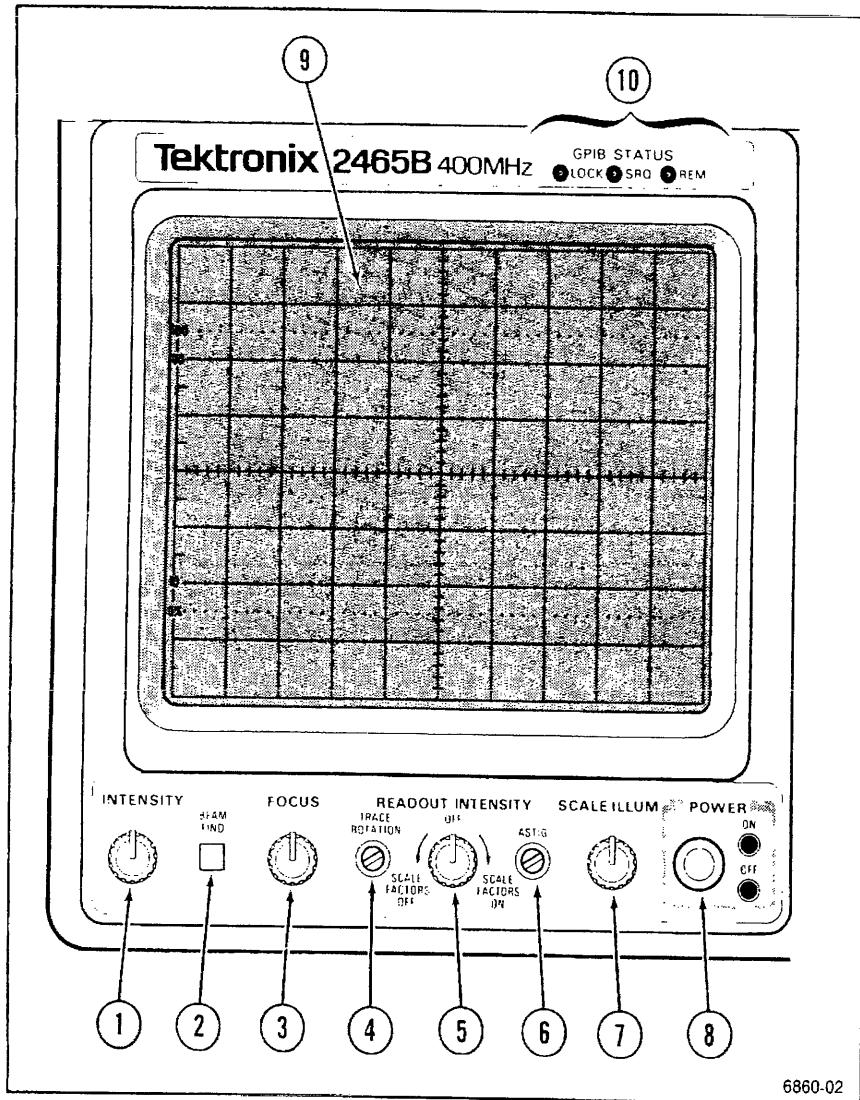

Figure 5-1. Power and display controls.
Refer to Figure 5-1 for the location of items 1 through 10.
- (1) **INTENSITY Control** Adjusts the brightness of the waveform.
- (2) **BEAM FIND Button** Limits the CRT deflection both vertically and horizontally to within the graticule. Display intensity is not affected by the BEAM FIND button.
- (3) **FOCUS Control** Adjusts the CRT writing beam for optimum display definition.
- (4) **TRACE ROTATION Control** Aligns the no-signal trace with the horizontal graticule lines. Relocating the instrument to a different magnetic ambient may result in slight misalignment of the trace and graticule, indicating a need to readjust the TRACE ROTATION control, using a screwdriver.
- (5) **READOUT INTENSITY Control** This control adjusts the intensity of the CRT readout display and will either enable or disable the display of scale factors. Digital measurements, Save/Recall readouts, the "50 Ω OVERLOAD" message, the available Counter/Timer/Trigger (CTT) menu, and the available Television/Video (TV) function indicators are always enabled.